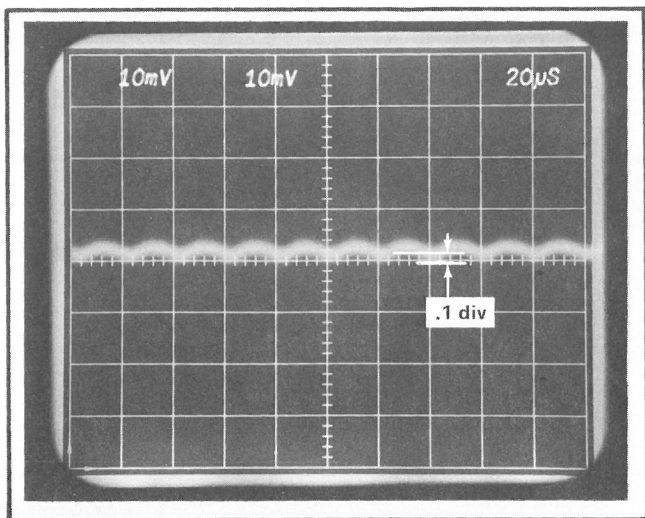

Fig. 4-3. Typical common-mode signal remaining after a probe pair has been properly compensated. Input is 10 V at 50 kHz.
n. ADJUST—the LF COMP of either probe to obtain minimum display amplitude. If the P-P amplitude (excluding noise) still exceeds .27 division, adjust the DC ATTEN on either probe for minimum amplitude. (See Fig. 4-1B.) Fig. 4-3 shows a typical display at completion of this step.